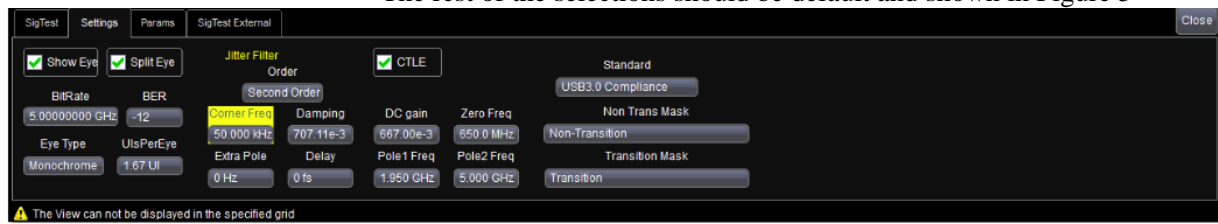

Figure 5
- The rest of the selections should be default and shown in Figure 5